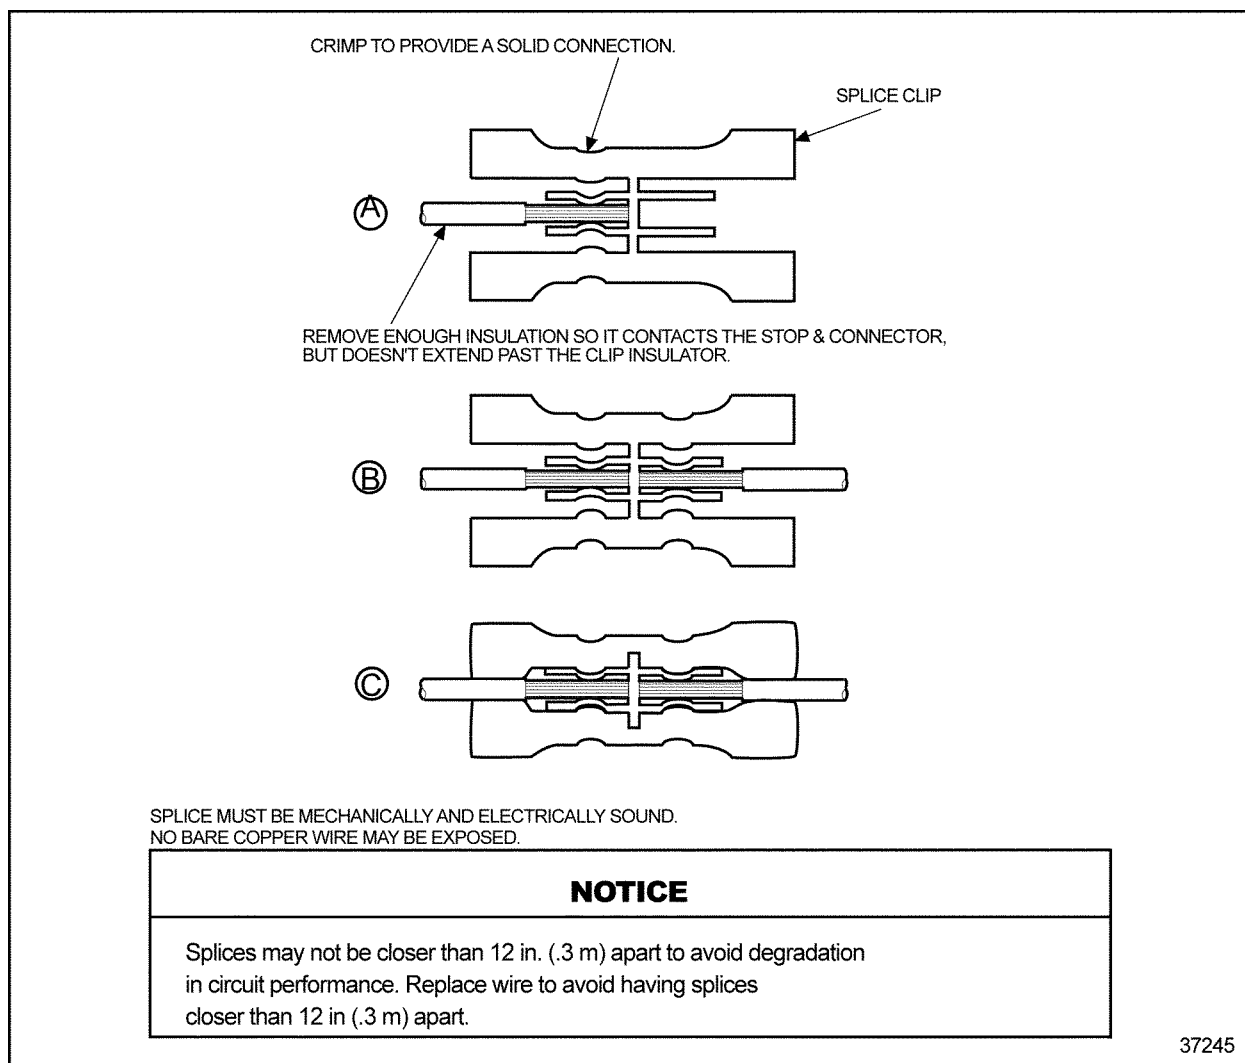

Figure 3-19 Splicing Straight Leads - Alternate Method 1
3. Insert one wire into the splice clip until it butts against the clip. Stop and crimp (see Figure 3-19, A).
4. Insert the other wire into the splice clip until it butts against the clip stop (see Figure 3-19, B).
7. Shrink the splice clip insulative casing with a heat gun to seal the splice (see Figure 3-19, C).